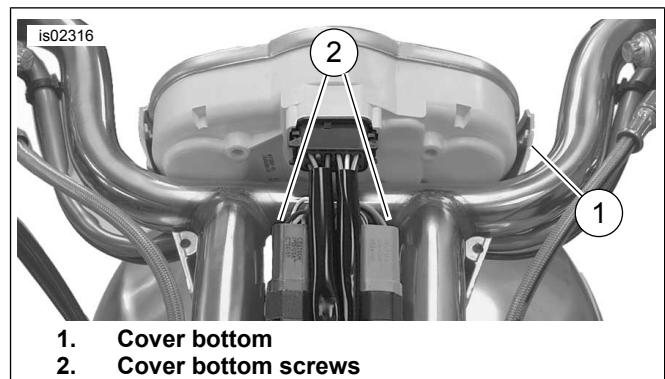

Figure 6. Remove Handlebar Bottom Cover
2. See Figure 6. For **2002-2003 models**, remove two screws securing the handlebar bottom cover to the handlebars and gently separate bottom cover from cluster. For **2004 models** remove the left side frame panel. Save hardware.
12. Using Cable Strap (1) from kit, secure turn signal wiring to instrument cluster harness.
13. See Figure 6. For **2002-2003 models** align the handlebar bottom cover over instrument cluster and secure cover to handlebar using two screws removed in Step 9. For **2004 models** align install left side frame panel using screw. Tighten securely.